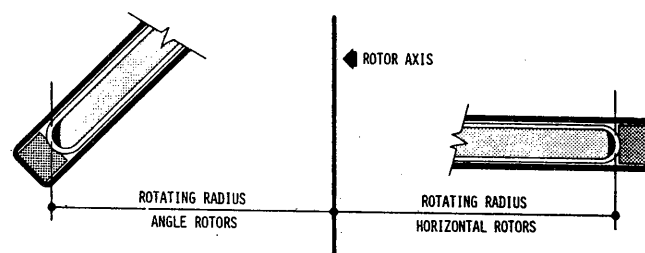

Figure 3-2 Rotating Radius
3.6.6 Rotating Radius (Refer to Figure 3-2)